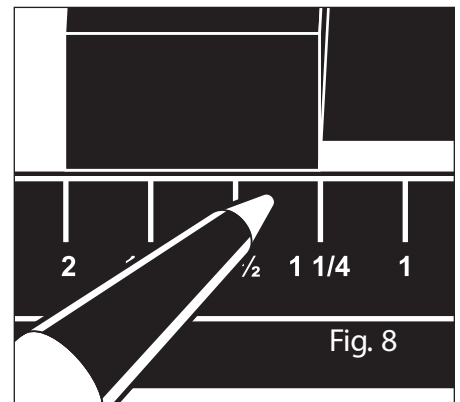

Fig. 8
2. Adjust V-nail block in slider to same dimension as visé scale. V-nails are now set approximately 1/4 inch from each end of joint (Fig. 8).